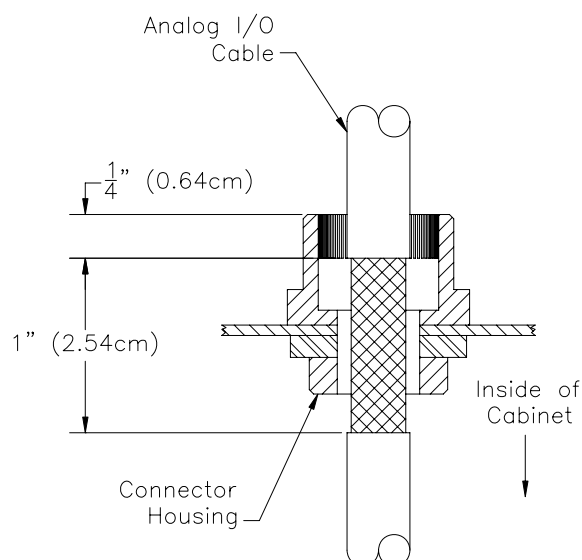

Figure 9: I/O Cable Stripping
2. Route the desired length of I/O cable through the connector housing and mark 1-inch span of cable that passes through connector housing to be stripped to braid (see Figure 9).